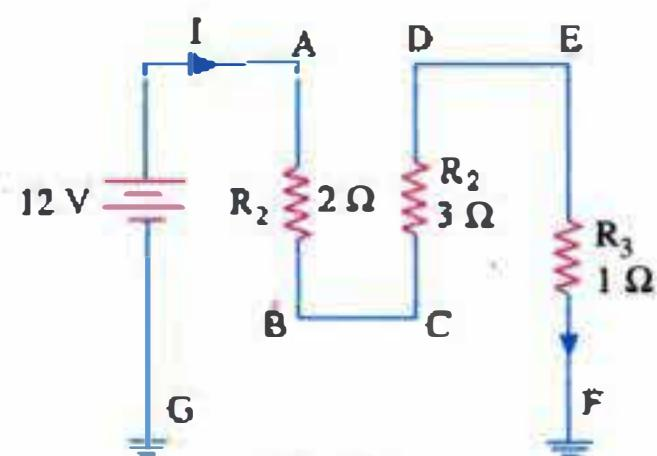

Fig. 2.7
**Example. 2.1.** In Fig. 2.7, compute